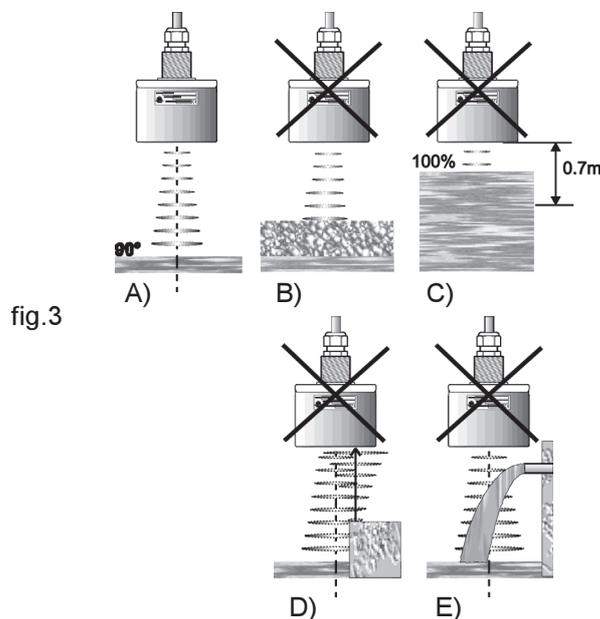

fig.3
To reach a good and safe measurement, avoiding spurious echo (not reflected from the surface to measure) need to take care about the sensor sensibility volume in the sound path, no obstacles or objects must be present into the sensibility volume (lobe), see fig.3/D/E.
- 1) Install perpendiculary at the surface, see fig.3/A
- 2) Don't use with foaming products, see fig.3/B
- 3) Avoid installation where the product distance could be less than 0,7m, see fig.3/C
- 4) No obstacles or objects must be present into the sensibility volume, see fig.3/D/E